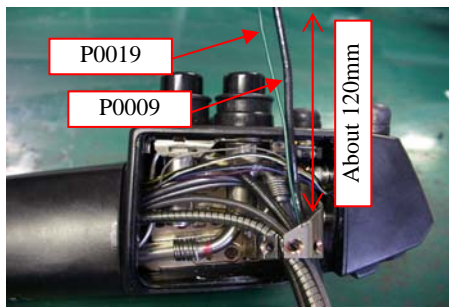

Fig.5-1-1
1. Pass GND wire (P0019) and Remote Control Wire (P0009) into the LG Cable Attaching Frame if they are replaced with new one. (Fig.5-1-1)